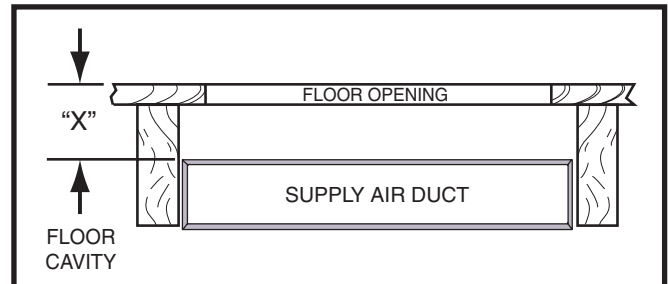

Figure 7. Floor Cavity
- NOTE:** The depth of the floor cavity (shown as "X" in Figure 7) will determine the correct duct connector.